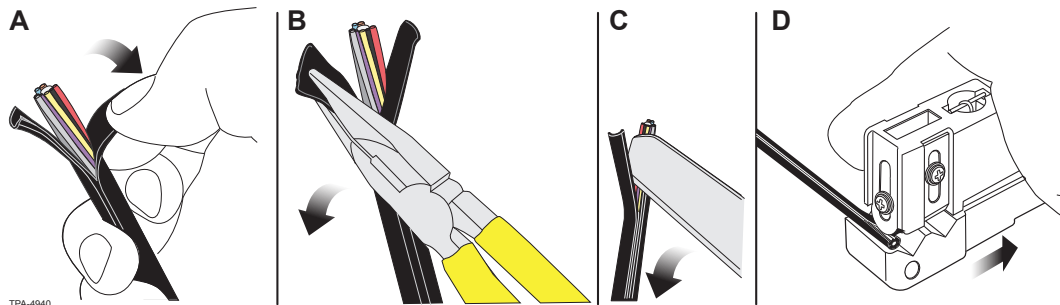

Figure 6
Step 4: After the last 1-in cut, either use fingers, needle-nose pliers, sheath knife, or Ideal tool round blade to pull jacket away from cable. See Figure 6.